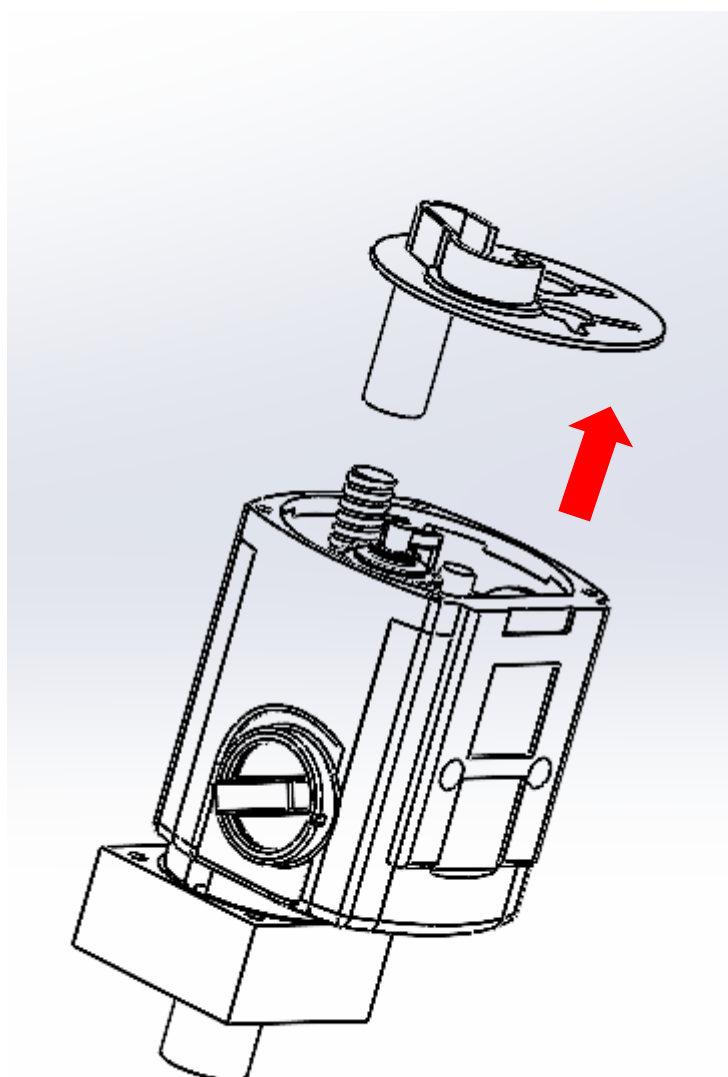

Figure 5.17
- 5.6.1 Remove the sealing plug for the oil chamber in the direction of the arrow as shown in the figure 5.17;